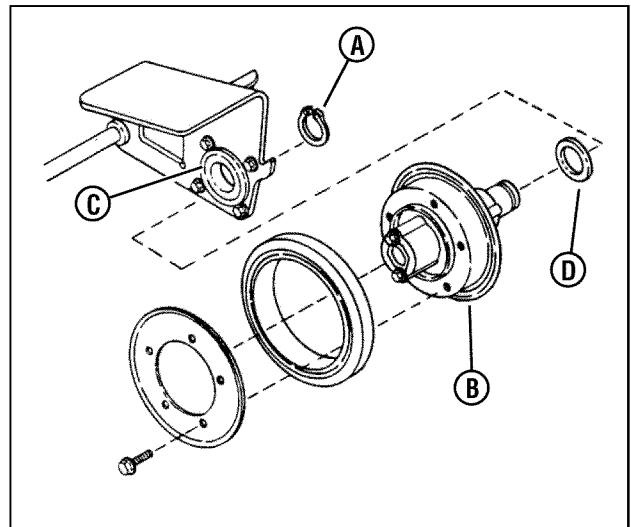

Figure 33: Replacing the driven disc bearing
- Remove the snap ring (A, Figure 33) that secures the driven disc hub (B) to the thrust plate.
- Slide the driven disc hub out of the bearing (C).